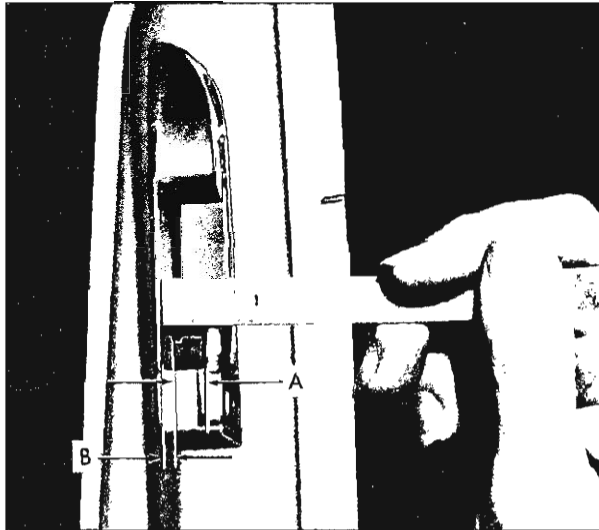

Fig. 25—Striker Engagement Check
2. To determine if door lock striker emergency spacers are required, apply modeling clay or body caulking compound in door lock striker notch where lock extension engages and then close door to form a measurable impression in clay or caulking compound (fig. 25).